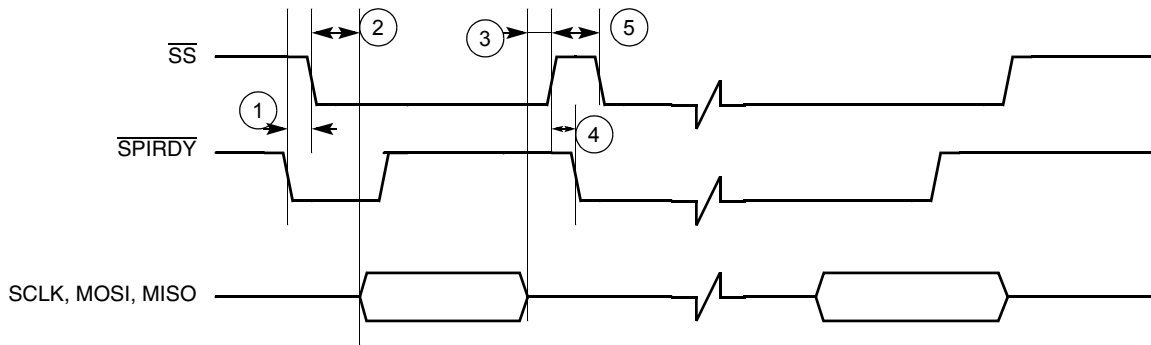

Figure 39. Master SPI Timing Diagram Using $\overline{\text{SPI_RDY}}$ Edge Trigger
To use the internal transmit (TX) and receive (RX) data FIFOs when the SPI 1 module is configured as a master, two control signals are used for data transfer rate control: the \overline{SS} signal (output) and the $\overline{SPI_RDY}$ signal (input). The SPI1 Sample Period Control Register (PERIODREG1) and the SPI2 Sample Period Control Register (PERIODREG2) can also be programmed to a fixed data transfer rate for either SPI 1 or SPI 2. When the SPI 1 module is configured as a slave, the user can configure the SPI1 Control Register (CONTROLREG1) to match the external SPI master's timing. In this configuration, \overline{SS} becomes an input signal, and is used to latch data into or load data out to the internal data shift registers, as well as to increment the data FIFO. Figure 39 through Figure 43 show the timing relationship of the master SPI using different triggering mechanisms.
Table 24. Timing Parameter Table for Figure 39 through Figure 43